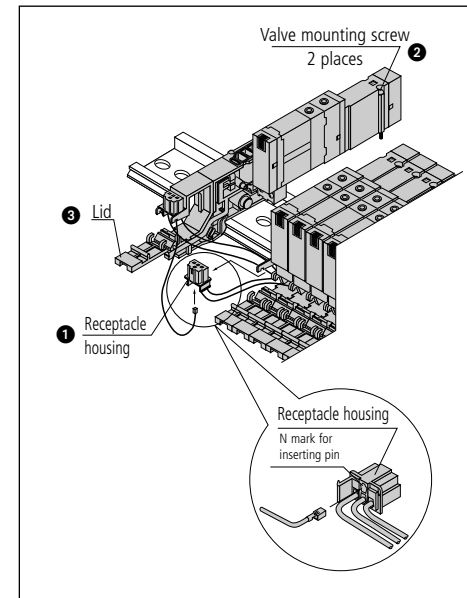
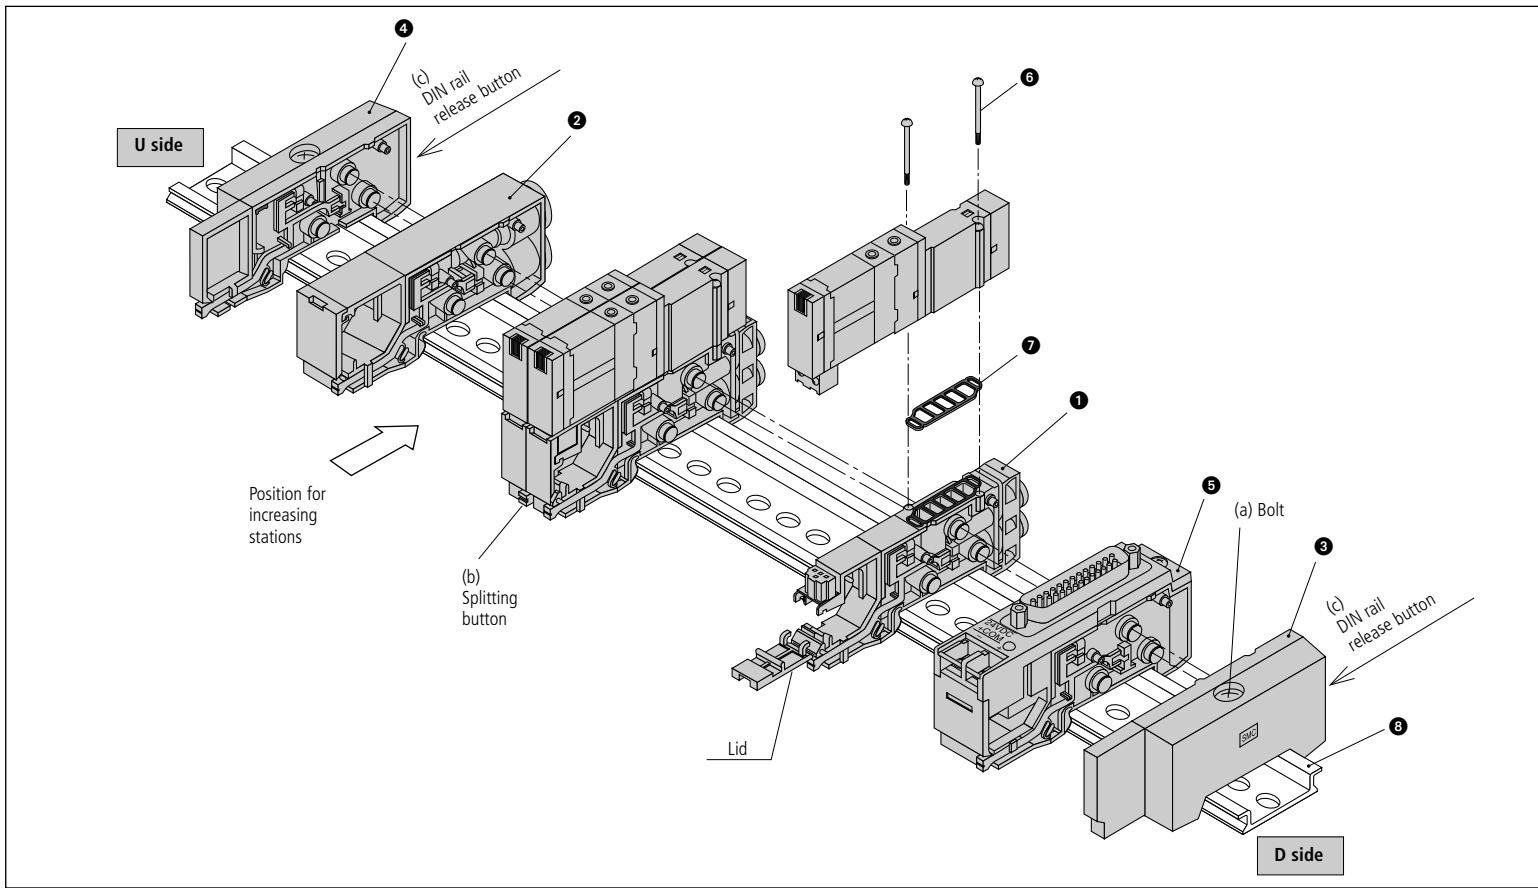
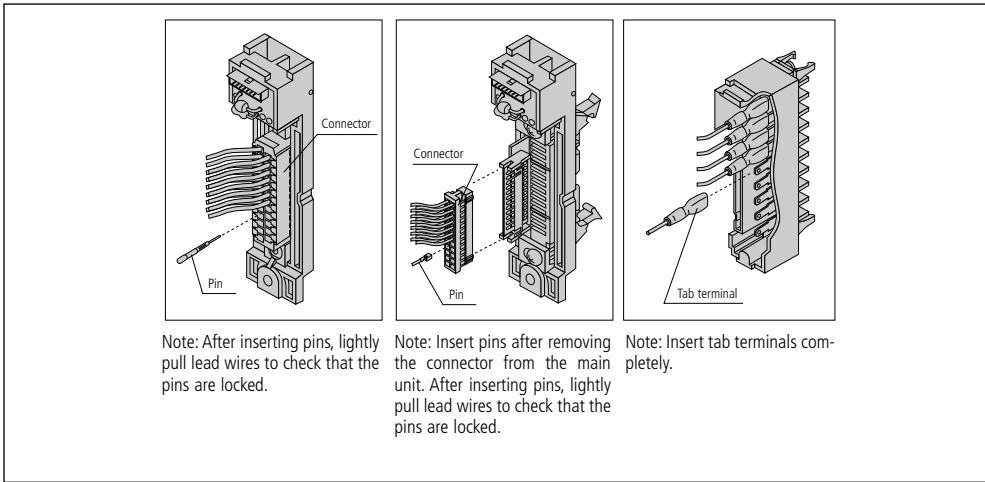

Fig 19
Fig 17
Fig 21
Increasing manifold stations (Figs 17, 18, 19, 20 & 21)
Slacken captive bolt (a) (Fig 17). Press DIN rail release button (c) (Fig 17) and separate the manifold base from the DIN rail.
Press splitting button (b) (Fig 17), until the button locks, and then separate the manifold blocks.
Slacken the valve mounting screws ② (Fig 19), on the 'U' side, remove the valve, and take out the receptacle housing ① (Fig 19). Insert the common wire (red) of the manifold block to be added into the pin insertion section (N mark) (Fig 19), of the receptacle removed in 5 above. Refit the receptacle to the manifold. Fit the additional manifold block to the DIN rail, on the 'U' side. Refer to the circuit diagram, and the lead wires into the connector (Fig 21). **Note: SOL. A black wire, SOL. B white wire (Fig 21).** Re-fit the connector block assembly. Press the blocks together until an audible 'click' is heard. Feed the lead wire into the manifold block, taking care not to trap the wire, close the lid ③ (Fig 19). Ensure that there is no gap between the blocks, re-tighten bolt (a) (Fig 17) to a torque figure of 1N·m.